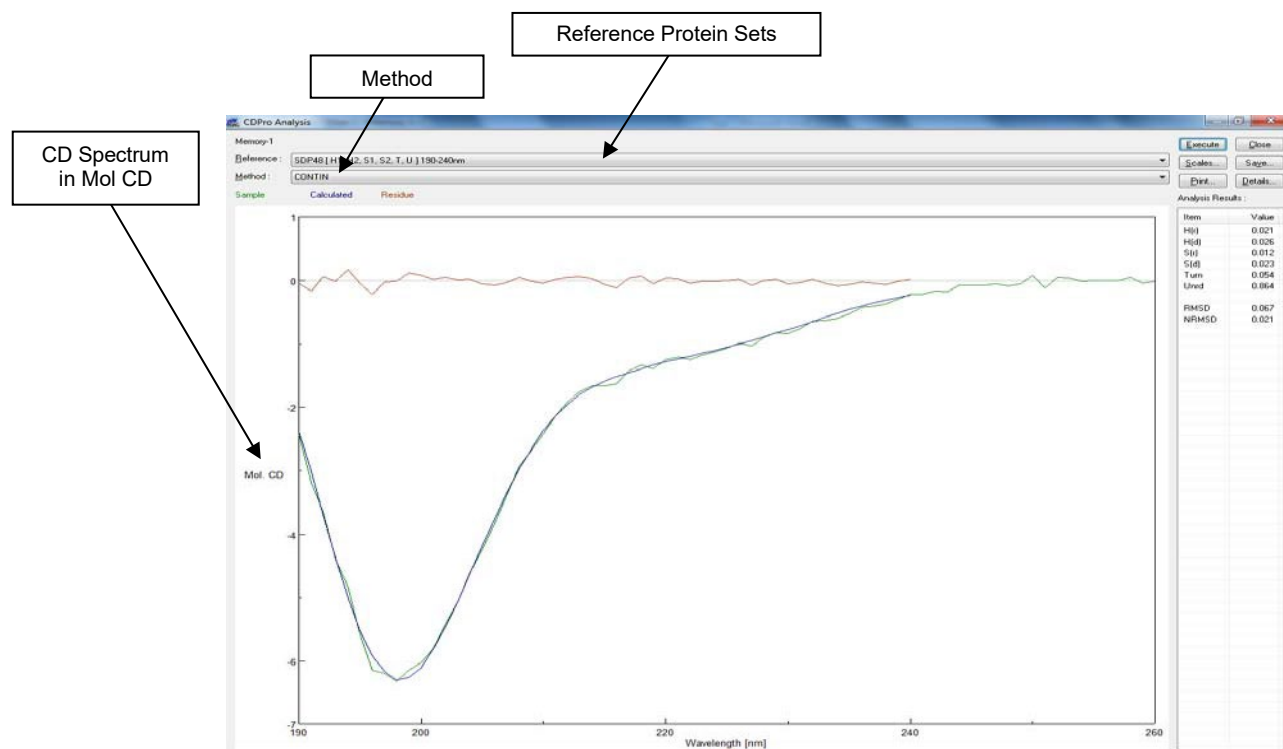

Figure 8. CD. Spectrum in Mol CD.
6.1.7 A new window opens displaying the CD Spectrum in Molar Ellipticity units (Figure 8).